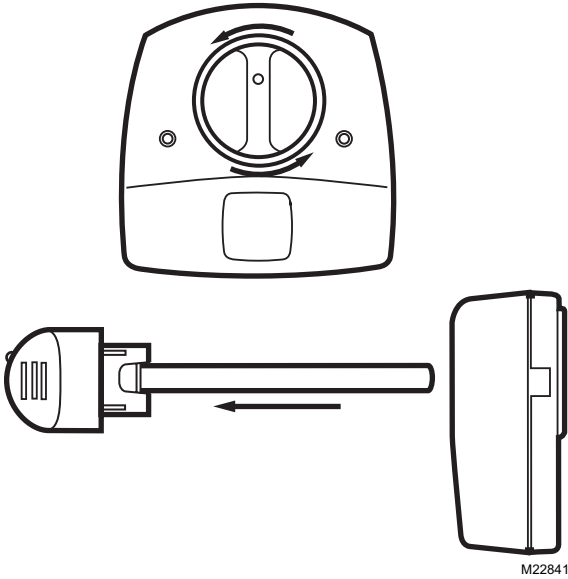

Fig. 11. Remove lamp or bulb.
3. Rotate your lamp handle counterclockwise and gently pull the lamp handle to remove the bulb(s). See Fig. 11.
4. Rotate the lamp handle counterclockwise and gently pull the lamp handle to remove the bulb(s). See Fig. 11.